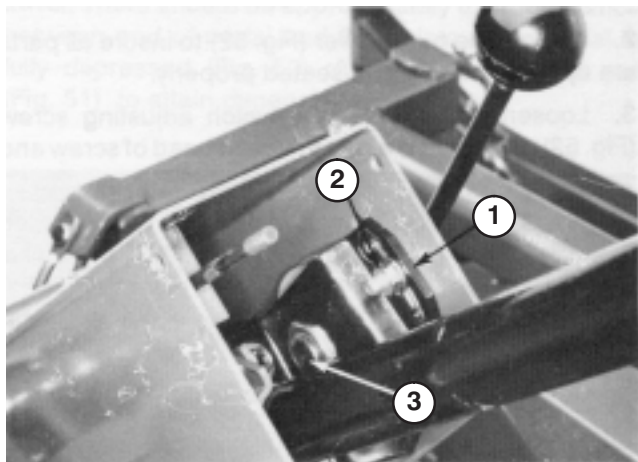

Figure 61
1. Remove knob from parking brake and self tapping screws from steering column cover. Slide cover up steering shaft to expose pivot bracket (Fig. 61).
2. Loosen small nut, rotate pivot bracket until it tightens large nut below (Fig. 61). Retighten small nut.